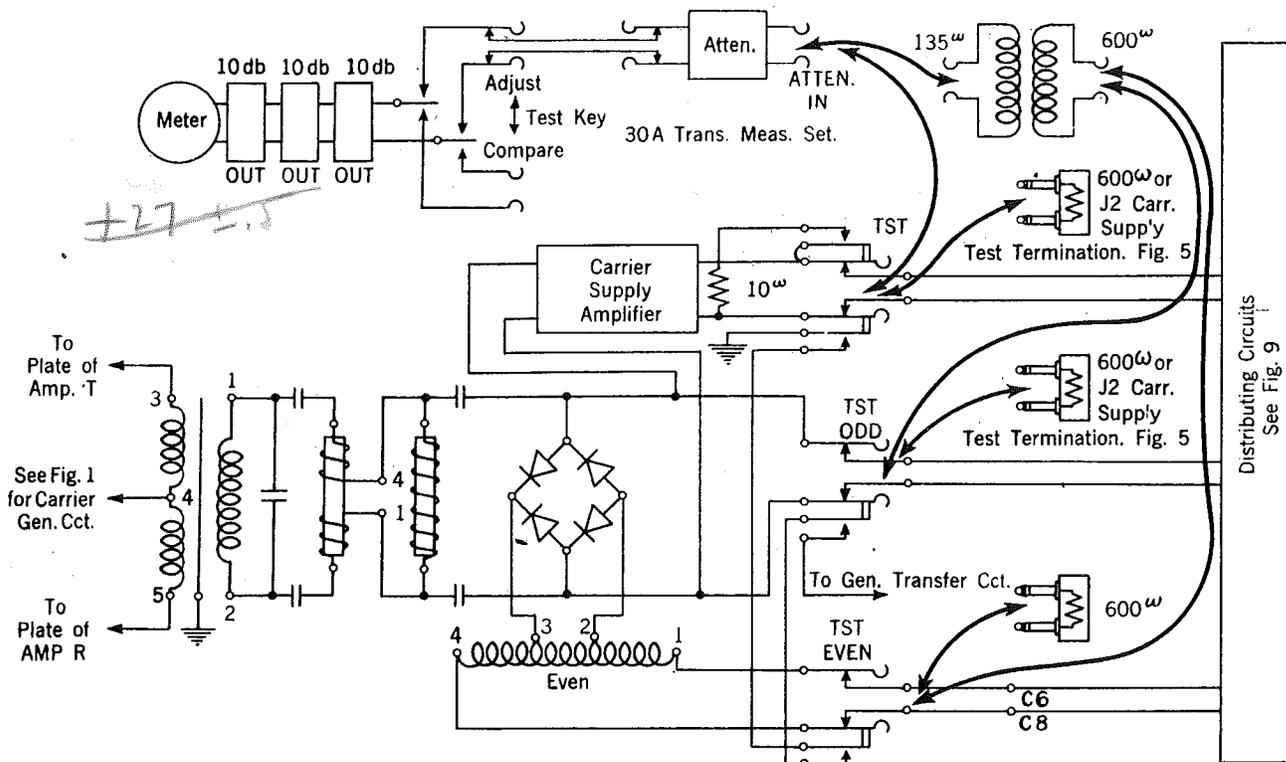
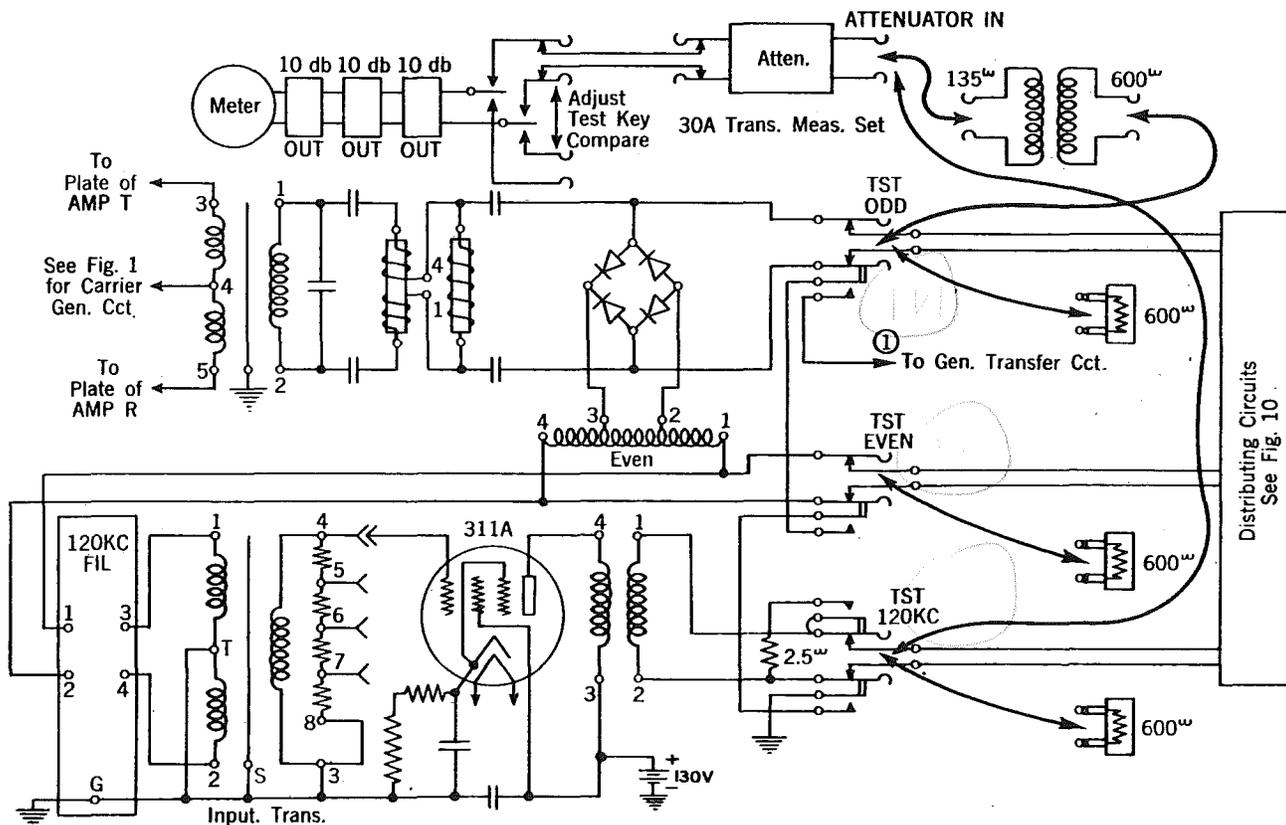
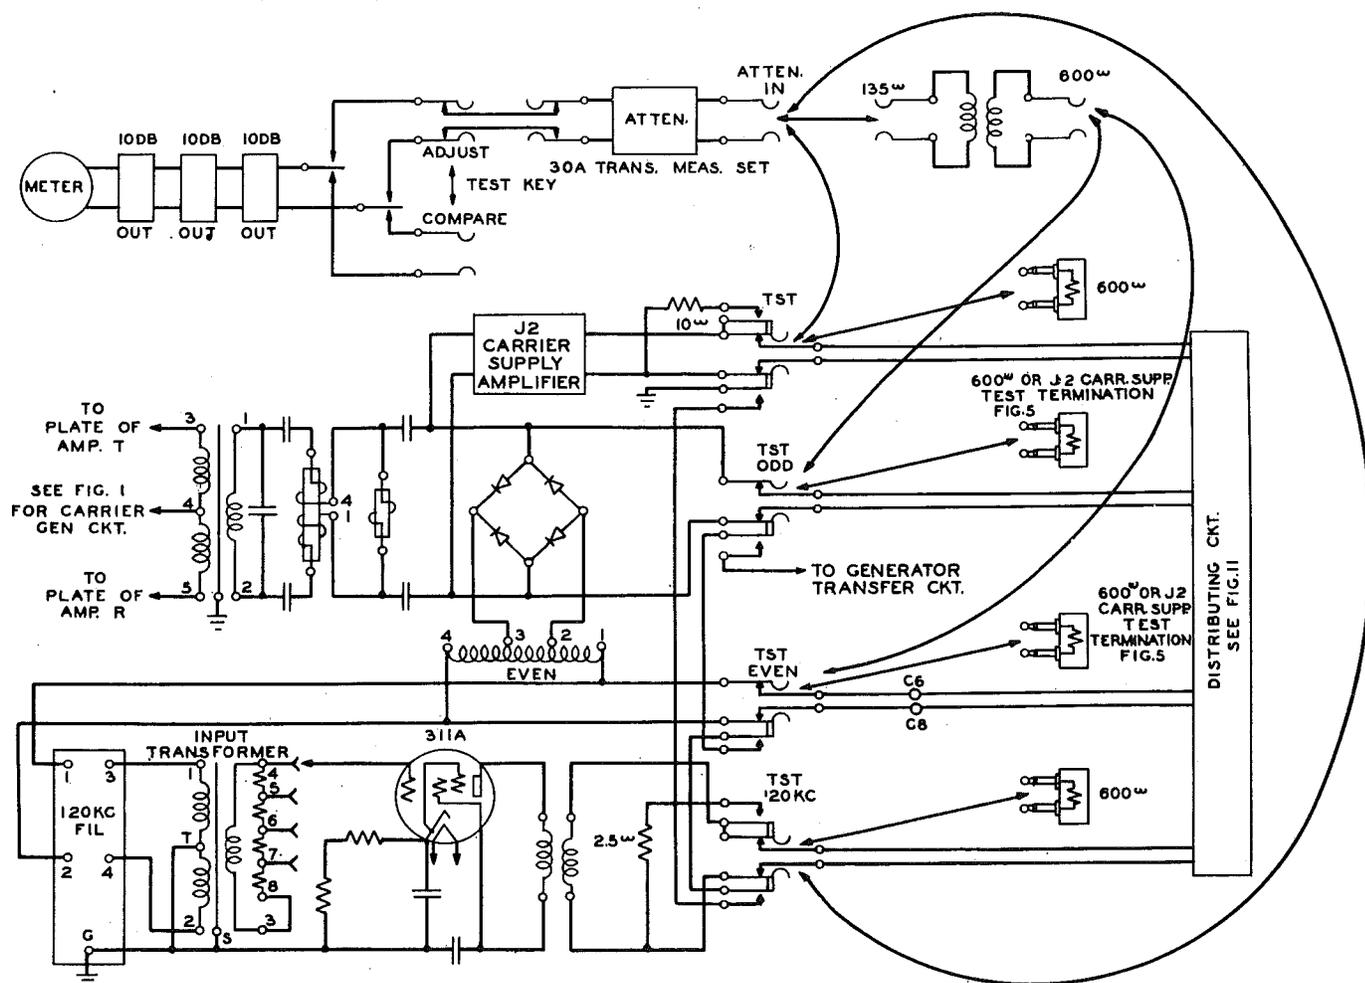

Fig. 6 - Carrier Supply Output at Test Jacks - J2 Carrier Supply
Fig. 7 - Carrier Supply Output at Test Jacks - K Carrier Supply
Fig. 8 - Carrier Supply Output at Test Jacks -
3.27 Procedure - Output at TST ODD and TST EVEN jacks - See Fig. 6 for J2, Fig. 7 for K, and Fig. 8 for the Combined J2 & K Carrier Supply:
3.28 Procedure - Output at Test Jacks of Regular and Emergency Carrier Supply Amplifiers - See Fig. 6 for J2, Fig. 7 for K, and Fig. 8 for the Combined J2 & K Carrier Supply: